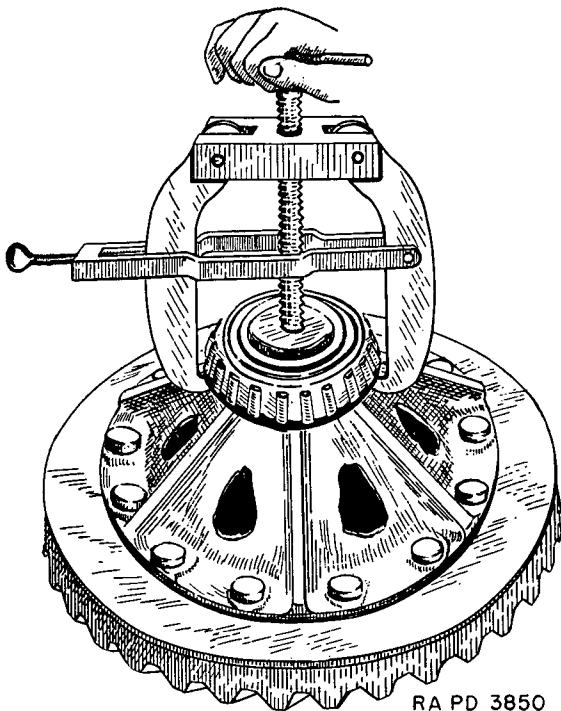

FIGURE 31.—Front axle differential bearing cone removal.
(9) Remove case bearings—bearing puller. Using a bearing puller as shown in figure 31, pull off taper roller bearing cones (A214928).